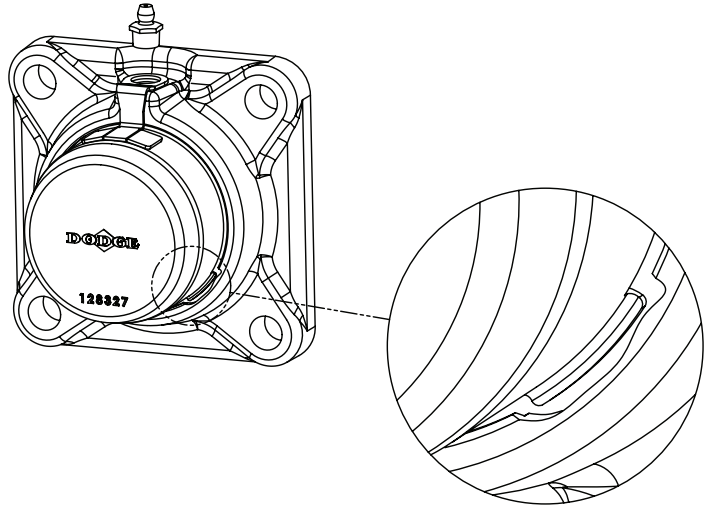

Figure 1 - End Cover Tab Alignment
3. Push the cover into the counterbored hole in the housing so that the two tabs are in contact with the back face of the counterbore (see Figure 1). Then push the cover downward so that both tabs are felt to lock into the end cover groove.